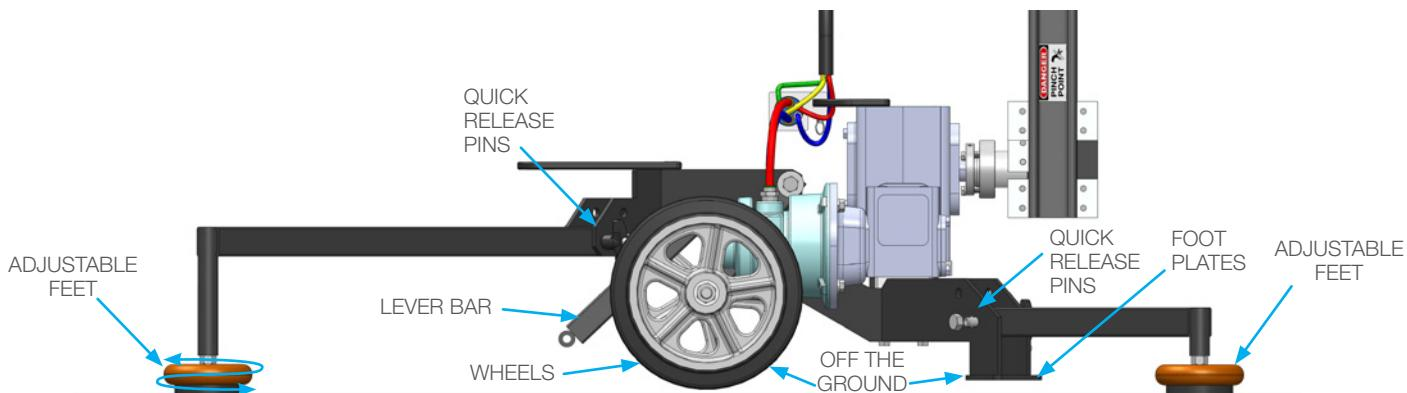

FIGURE 2
2. Pull the leg assemblies down and insert the Quick Release Pins through the cart and leg base. Push down on the Lever Bar to raise the wheels and foot plates off the ground. The Striker can be stabilized by screwing the feet in or out. (**Figure 2**)
All four adjustable feet MUST be level to the ground and the lever bar MUST be pressed firmly down to lift the wheels and foot plates off the ground. (**Figure 2**) Failure to do so may allow the Striker to slide around on the ground during operation.